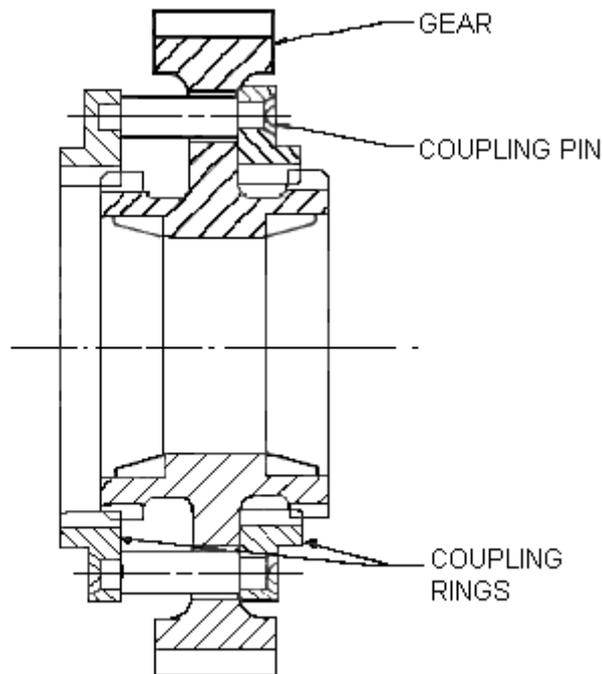

Figure 64 Input Gear Coupling Assembly
- (3) Drill out the coupling pins with a 6.2 mm diameter drill.
- (4) Assemble the new couplings and pins (Figure 64).